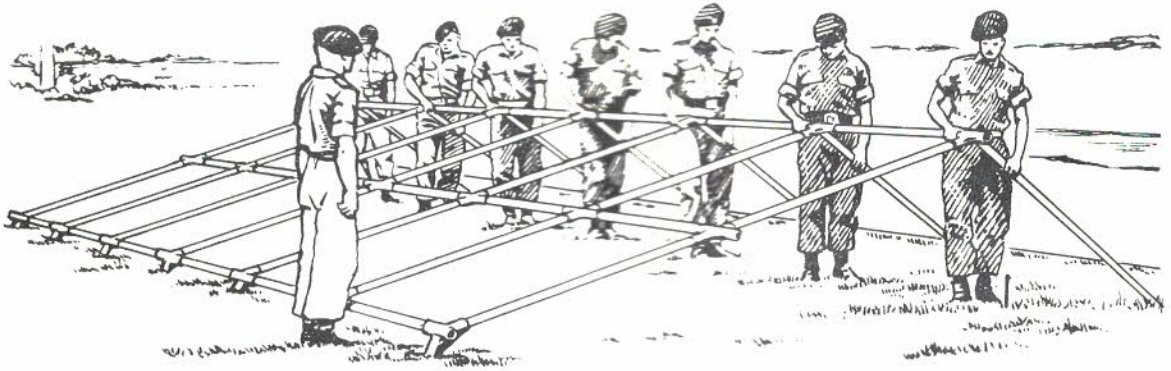

FIG 18
Ridge Line to Eave Line (Side 2) (See Figs 18 to 21)
30. Repeat the drill outlined in paras 24 to 29 on the opposite side of the ridge line as shown in Figs 18 to 21.